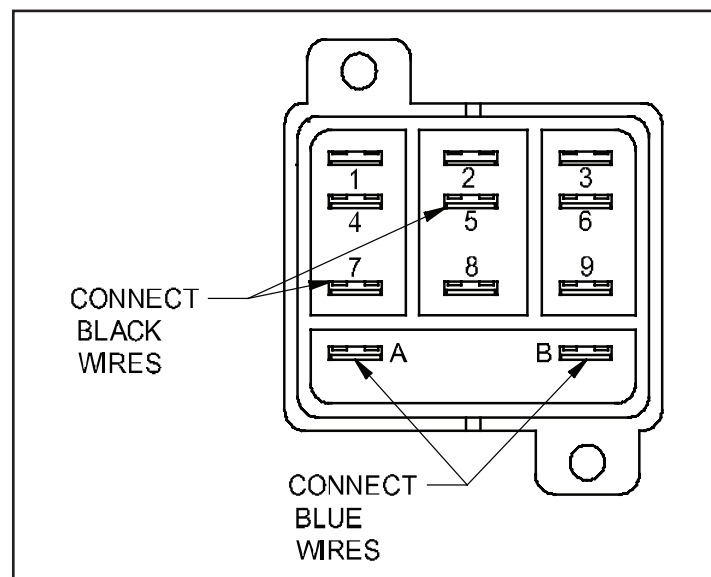

Figure 1
2. Install wires into relay terminal base. Connect the two (2) blue wires to the terminals marked "A" and "B"; and the two (2) black wires to the terminals "5" and "7". (See Figure 1) Check terminals before installing relay base into electrical box to assure that the wires are connected properly.
3. Install relay base with wires into the square knockout in the electrical box using the two (2) self-tapping screws.